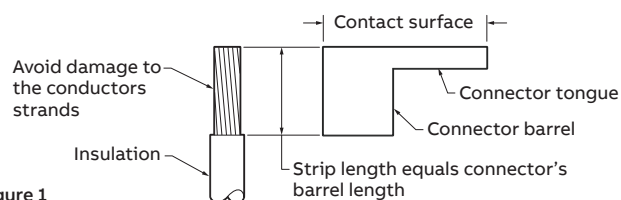

Figure 1
1. Check conductor size marked on connector tongue to confirm connector and conductor compatibility. (Figure 1 and 3).
2. Carefully strip the conductor insulation, avoiding any damage to the conductor strands. The length of the conductor barrel should be used to measure strip length (see Figure 1).
5. Apply Blackburn® Contax® Type CT or Weaver Type CP oxide inhibiting compound to the contact surface of the connector (Figure 1).